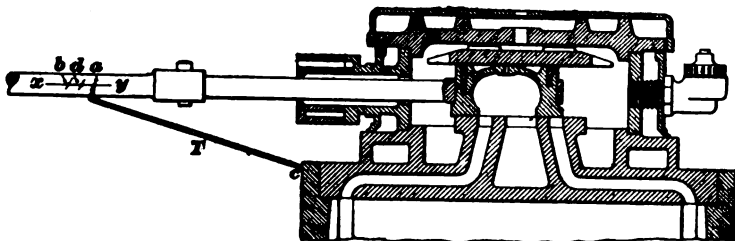

FIG. 60.
First of all, take up any lost motion between valve and yoke by putting thin liners in between back end of valve and the yoke. Then place the engine about on the quarter, and move the reverse lever until the front edge of the valve is so near the outside edge of front steam port as to just admit a thin piece of tin between valve and port, Fig. 60. Make a center-punch mark *c* in the face of the back cylinder head, and then,
by means of the tram *T*, scribe a line *a* on the valve rod and punch it where it crosses the center line *xy*. This punch mark will then be the front port mark, and by means of it, and without removing the steam-chest cover, we can tell when the valve is in the position shown in Fig. 60.
engines, however, the valve rod is made adjustable, and hence the total length of the valve rod and stem is liable to be varied. To determine whether the valve rod and stem are of the proper length, place the top rocker-arm vertical, that is, at right angles to the valve rod. Then, by means of the tram, Fig. 60, try the position of the center-punch mark *d*. If the valve is in its mid-position, the rod and stem are the right length. If the point of the tram falls in front of the mark *d*, the valve rod is too short; while if it falls behind it, the rod is too long.
**72. Measuring the Lead.**—To measure the lead in forward motion for the front end of the cylinder, place the reverse lever in the forward corner, and turn the driving wheels forwards until the main pin is on the forward dead center, as determined in Art. 68. Then by means of the tram *T*, Fig. 60, scribe a line on the valve rod. If this line falls in front of the port-mark line *a* (i. e., between *a* and *y* in the figure), the valve
In order to avoid confusing the forward- and backward-motion lead marks on the valve rod, those for the forward motion had better be scratched from the line *xy* *upwards* (Fig. 60), and those for the backward motion from the line *xy* *downwards*. By following this method there will be no chance of mistaking the lead marks.
**73. By Port Marks and Lead Marks.**—Having both the port marks and the lead marks on the valve rod, it is a simple matter to determine whether the eccentric rods are of **proper length**, and, if not, how much they must be altered. If the valve has the same amount of lead at both ends in, say, the forward motion, then the go-ahead eccentric rod is the right length. If the leads are unequal, a change must be made in the length of this eccentric rod. To determine how much the rod needs altering, proceed as follows: Find the center point between the lead marks on the line *xy*, Fig. 60; if this point falls in front
To measure the cut-off for the front end of the cylinder (forward motion), place the reverse lever in the notch for which the cut-off is to be measured (the forward 6-inch notch in this case), and turn the drivers forwards until the main pin has crossed the forward center and the crosshead has begun its stroke towards the back end of the engine. Then turn the driver slowly and watch the motion of the valve by means of the port marks on the valve stem (see Fig. 60). The valve will move backwards for a time, but will soon change its direction of motion and move forwards. The tram should then be placed
in the punch mark *c* in the cylinder head, and the drivers moved forwards until the tram mark *a*, Fig. 60, coincides with the point of the tram *T*, when the valve will be at cut-off (see cut-off, Art. 43). Now, measure the distance between the front end of the crosshead and the front travel mark on the guide, to see how far the piston has traveled on its stroke, and mark it down so as not to forget it. If the travel is 6 inches, the cut-off is all right; if it is more than 6 inches, the cut-off occurs too late; while if less than this amount, the cut-off is too early. Next, leave the reverse lever in the forward gear and turn the driver forwards again until the main pin crosses the back dead center, and obtain the cut-off for the back end of the cylinder, as explained above, the travel being measured from the back-travel mark *n*. By comparing this cut-off with that for the front end of the cylinder, it will be readily seen whether they are equal or not. The cut-off for the other cylinder may be found by the same method. The method for trying the cut-off for backward gear is the same as for forward gear, with the exception that the reverse lever must be placed in the back-gear 6-inch notch, and the drivers must be turned backwards instead of forwards.